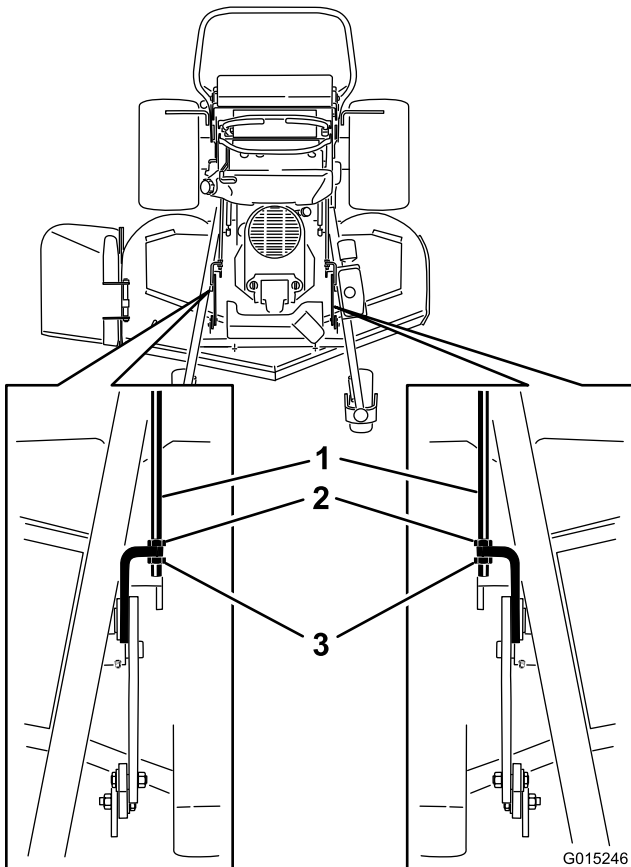

Figure 90
2. For 48 and 52 inch mower decks, loosen both the front and rear nuts on the adjustment rods (Figure 90).
4. The weight of the mower deck must be resting on all three of the 2x4's (Figure 90). The back lip of the
8. If the dimensions are not correct, adjust the front and rear nuts on either side to get the correct front-to-rear pitch (Figure 90).